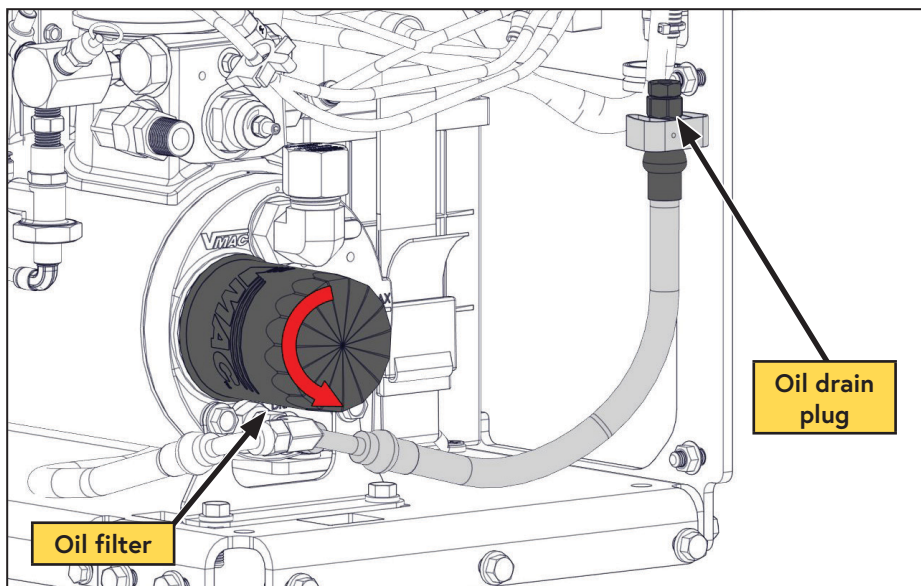

Figure 34 — Compressor oil filter
- ☐ Remove the oil drain extension from its holder on the frame and drain the oil into a container with a capacity of at least 4 L (1 USG) (Figure 34).
- ☐ Remove the oil filter (Figure 34).